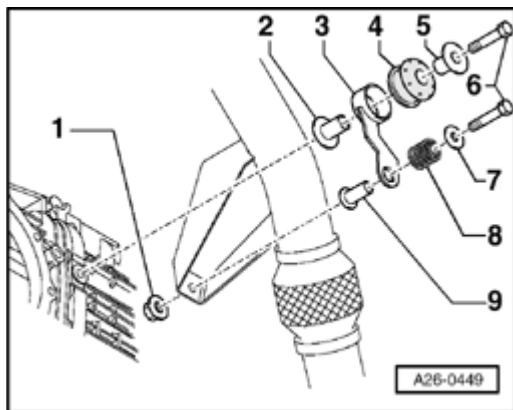

Fig. 479: Individual Left Mounting Components For Vehicles With Manual Transmission
- Individual mounting components for vehicles with manual transmission. See **Fig. 479**